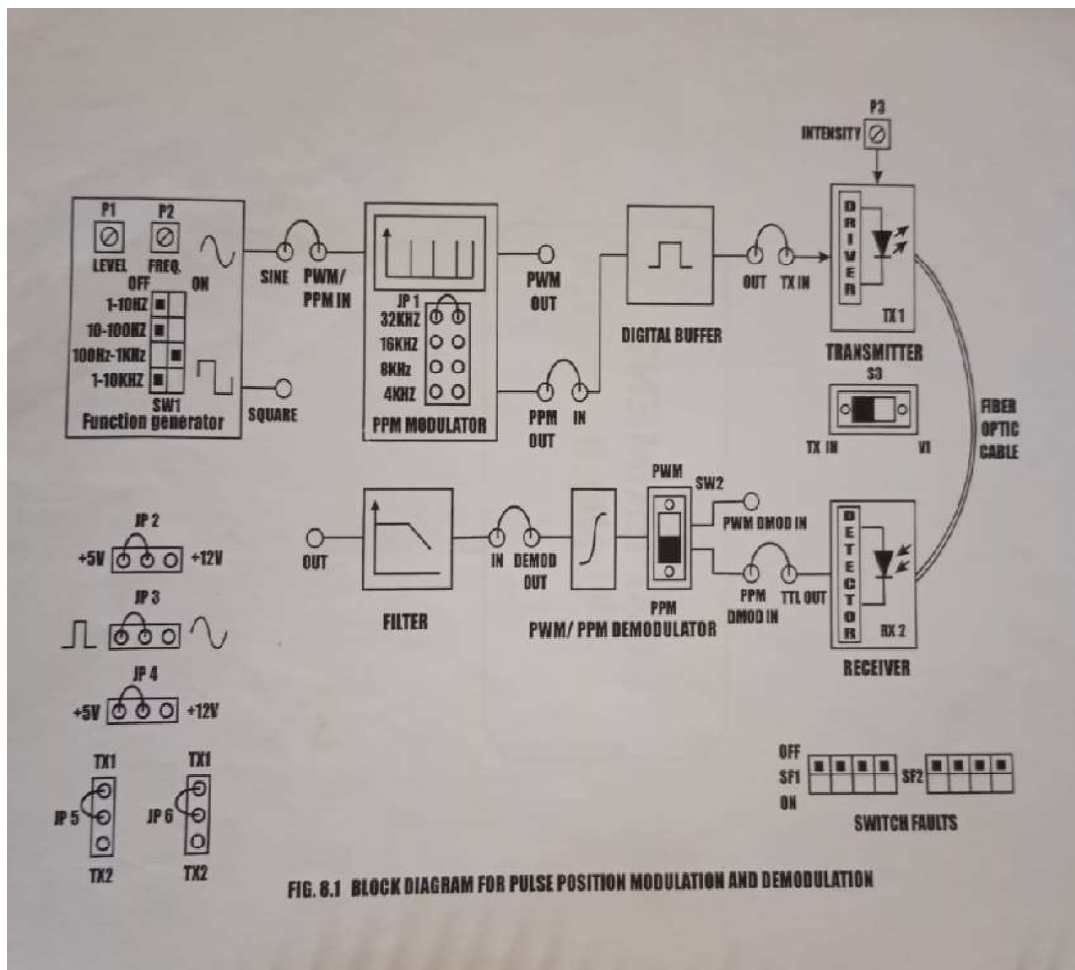

FIG. 8.1 BLOCK DIAGRAM FOR PULSE POSITION MODULATION AND DEMODULATION
2. Make the connections and jumper settings as shown in FIG. 8.1 Connect the power supply cables with proper polarity to kit. While connecting this, ensure that the power supply is OFF.